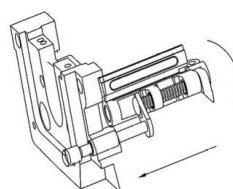

图10 (Fig.10)
- 2.在穿勾线时，将勾线座引出轴沿箭头方向拉出使勾线座向前弹出，然后进行穿线。(图 10)
- 2.For looper threading ,pull out the lever of looper set the arron then thread properly .cause thread brake 、uneven stitches or skip stitches.(Fig.10)